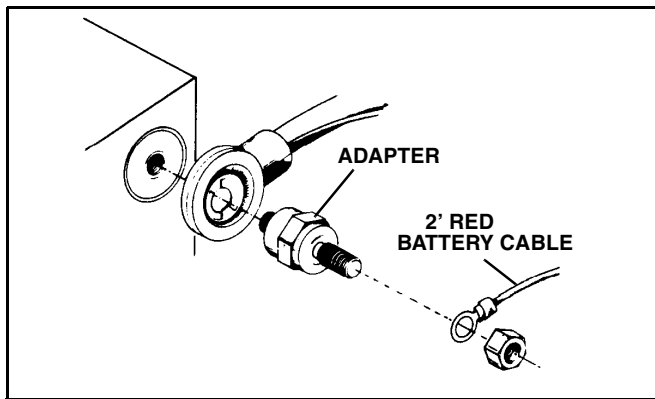

Figure 1-3
*NOTE: An adapter is recommended for vehicles with a side post battery. (See Figure 1-3). (Adapters can be purchased from your Sno-Way dealer, Part #96100773.*